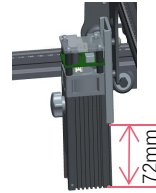
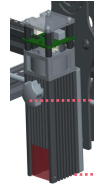

Figure 3
Figure 4
The installation of the Y-axis synchronous belt can refer to the installed synchronous belt on the X-axis assembly. Determine whether the timing belt is tight enough: press the position shown in Figure 4 with your fingers, and if there is no obvious deformation, it is tight enough. If the deformation is large, loosen one end of the T-nut and tighten the timing belt, and then tighten the T-nut.
2. Insert the laser module vertically into the slide rail block and drop it freely on the focusing side, and then tighten the torx handle. The maximum downward movement distance of the laser module is 72mm. The limited position for upward movement is that the bottom of the laser is flush with the bottom of the slide block (Figure 3. Figure 4). The thickness ranges of the engraved or cut products corresponding to each group of holes in the slide rail block are different (as shown in Figure 5).